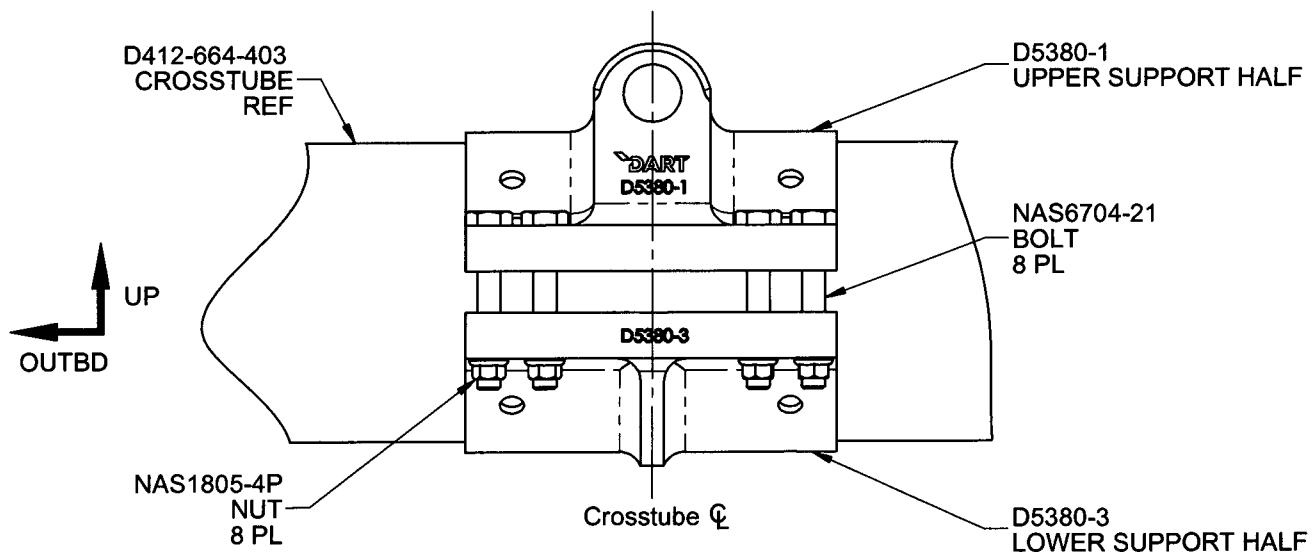

Figure 2 - Support Installation
- 2.7 Locate area on the crosstube for installation of D5380-1/3 Heavy Duty Support Assembly with reference to Figure 2.
- 2.11 Align the bolts with the holes on D5380-3 Lower Support Half and install onto the crosstube, reference Figure 2.